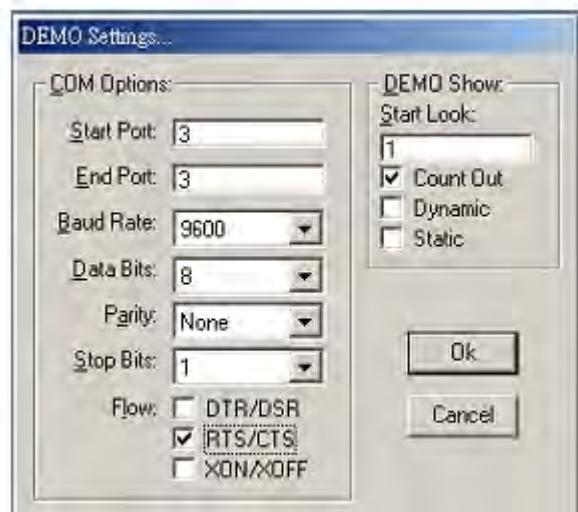

Fig.7
4. Click the "Setting" to set the RS232 loop counter (See the Figure 7); your system will detect COM3. Please note: "COM3" is an example of COM port number, user may get a different COM port number after the installation. The actual COM port number is assigned by Windows system.